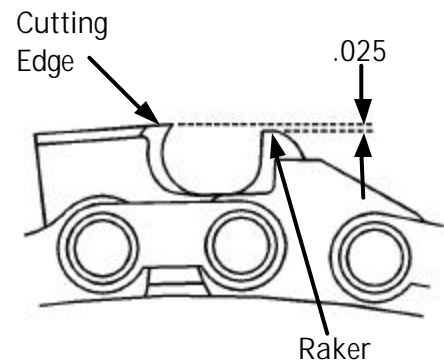

Figure 12
6. Hold the flat file horizontal and file down the rakers to the suggested dimension (Figure 12).